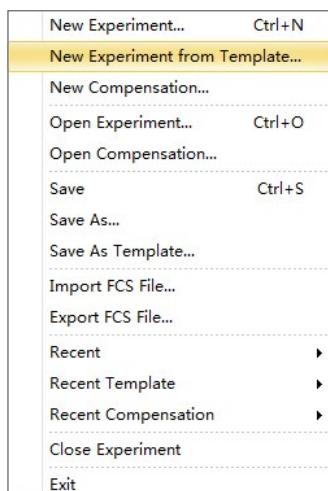

Figure 24. File submenu showing the New Experiment from Template command.
1. Open the “New Experiment from Template” dialogue box in the File menu (Figure 24).